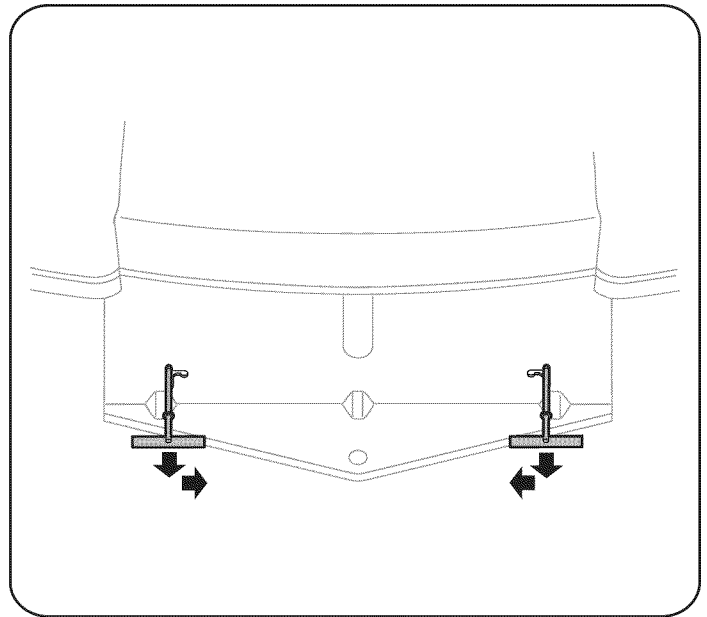

Figure 6
3. Repeat to engage the other release lever to allow the tractor to be manually moved. See Figure 6.